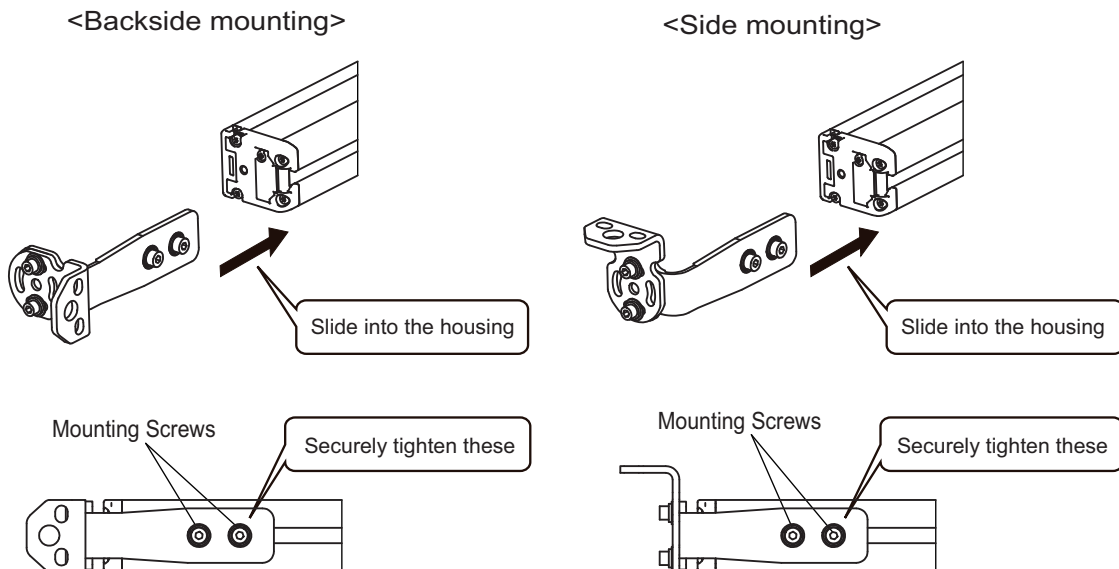

Fig. 2
2. Slide the Top/Bottom Bracket (1) in the grooves of the F3SG-R housing. Adjust the Top/Bottom Bracket to the mounting position of the wall surface. Make sure to position the whole body of the Top/Bottom Bracket (1) within the golden area of the housing. Securely tighten the Mounting Screws to fix the Top/Bottom Bracket to the housing of the F3SG-R. The recommended torque to tighten the Mounting Screws is 3.0 N•m. (Fig. 2)